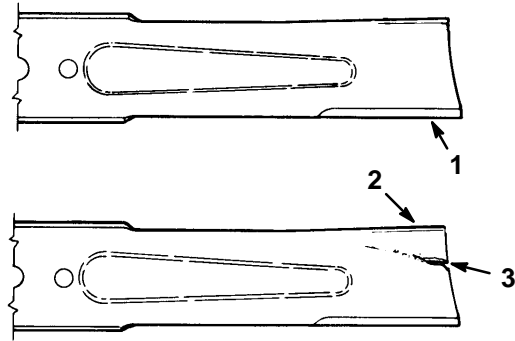

Figure 31
2. Inspect the cutting edges (Fig. 31). If the edges are not sharp or have nicks, remove the blade(s) and sharpen them; refer to Sharpening the Blade(s), page 21.
3. Inspect the blade(s), especially the curved area (Fig. 31). If you notice any damage, wear, or a slot forming in this area (Fig. 31), immediately install a new blade.